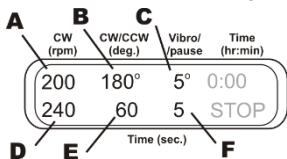
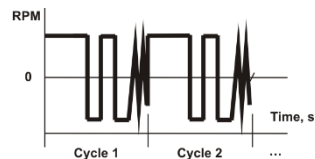

Figure 5.
Figure 6.
6.9.2. **Rotational + Reciprocal + Vibro motions.** Set the speed (40-1000 rpm, fig. 5/A) and time (1-250 s, fig. 5/D) of rotational motion. Set the angle (30-360°, fig. 5/B) and time (1-250 s, fig. 5/E) of reciprocal motion. Reciprocal and rotational motions have the same speed. Set the turning angle (1-5°, fig. 5/C) and time (1-5 s, fig. 5/F) for vibro motion. Graph in figure 6 shows motion in this mode.